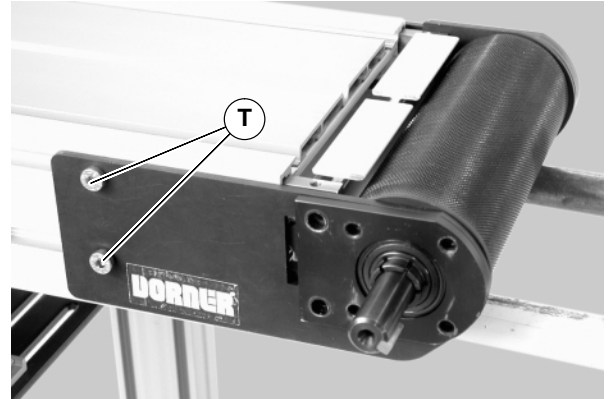

Figure 51
6. On the drive headplate, remove two (2) screws (T of Figure 51).